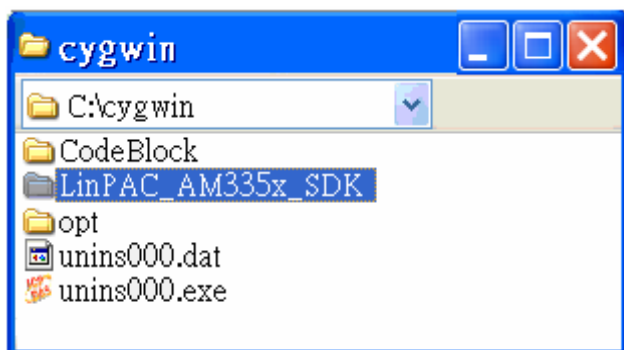
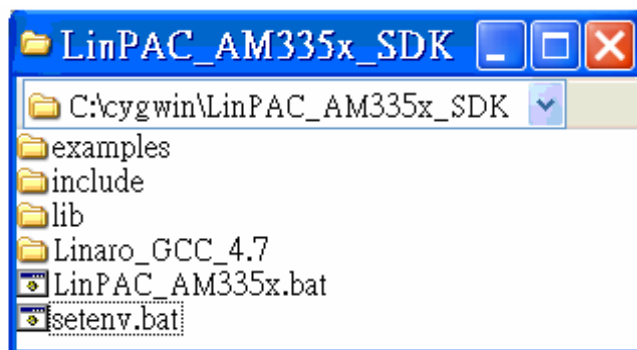

Fig. 2-13
Fig. 2-14
7. Open the LinPAC AM335x SDK installation directory, the default data directory location is “C:\cygwin”, user can see the contents of folder. Refer to Fig 2-13 and Fig 2-14.